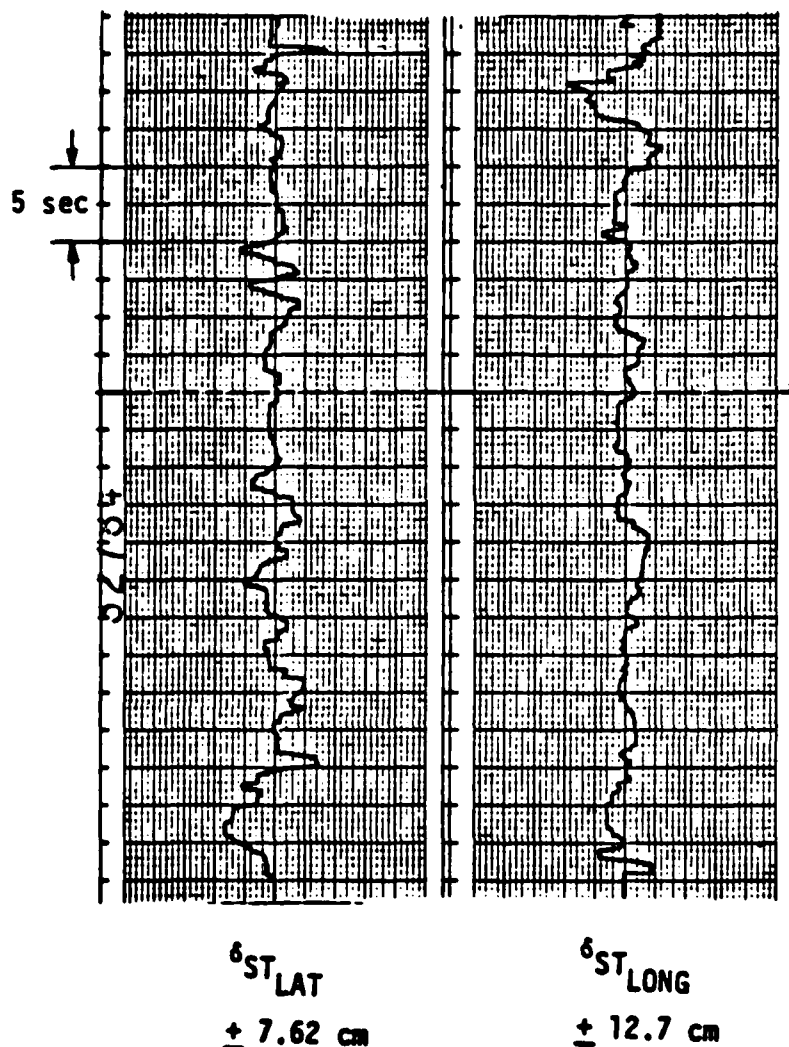

Figure 28. Strip Chart Recordings, Configuration TR5, Pilot C
5. STEADY-STATE GAIN CRITERION - An existing criterion from Reference 1, was used as a guideline in determining the nominal steady-state stick sensitivity (Figure 28). However, this nominal sensitivity was found to be unacceptable in some cases. Examination of pilot ratings and comments from the present simulation suggests a change in the criterion as shown in Figure 28. The proposed boundary is much more restrictive and tightens the acceptable frequency band to $1.0 \leq \omega_n \leq 2.65 \text{ rad/sec}$ for Level 1 handling qualities. Additional data are needed to verify the proposed boundary.